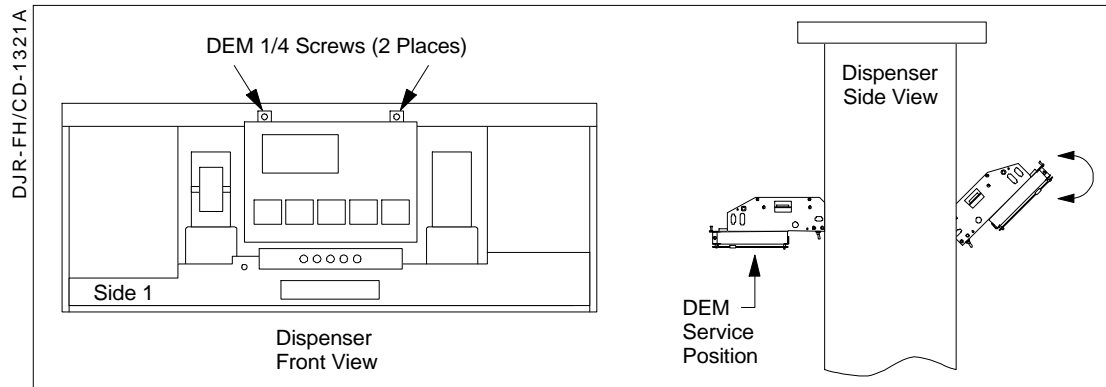

Figure 2-5 Lowering the DEM into the Service Position
1. Use a slotted screwdriver to loosen two ¼ turn screws located at the top of the DEM. Refer to Figure 2-5.